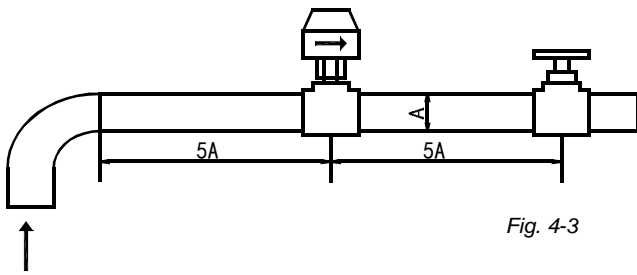

Fig. 4-3
- c. The inlet pipe of the evaporator must be provided with a target flow controller, to realize flow-break protection for the unit. Both ends of the target flow controller must be supplied with horizontal straight pipe sections whose diameter is 5 times that of the inlet pipe. The target flow controller must be installed in strict accordance with "Installation & Regulation Guide for Target Flow Controller" (Figure 4.3~4.4). The wires of the target flow controller should be led to the electric cabinet through shielded cable (see Electric Controlling Schematic Diagram for details). The working pressure of the target flow controller is 1.0MPa, and its interface is 1 inch in diameter. After the pipelines are installed, the target flow controller will be set properly according to the rated water flow of the unit.
• Schematic diagram of target flow controller(see Fig.4-3 Table4-2)